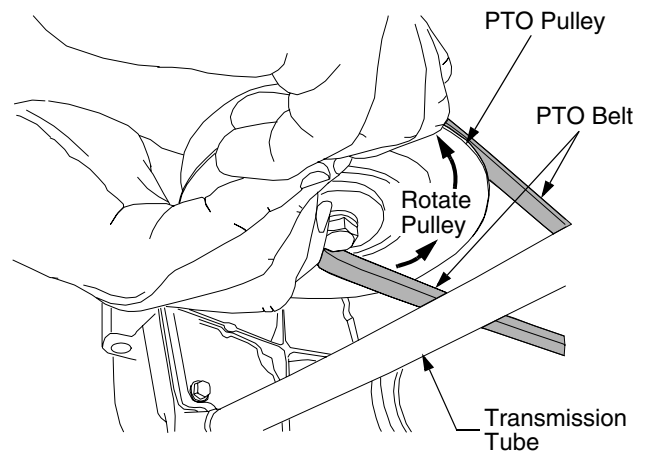

Figure 32
- While still holding the belt downward, continue turning the PTO pulley until the belt is rolled off the pulley. Refer to Figure 32
- Pull the right side of the belt rearward and place the narrow V side of the belt into the PTO pulley. See Figure 32.
- While holding the belt and pulley together, rotate the pulley to the left (See Figure 32). Continue holding and rotating the pulley and belt until the belt is fully rolled into the PTO pulley.